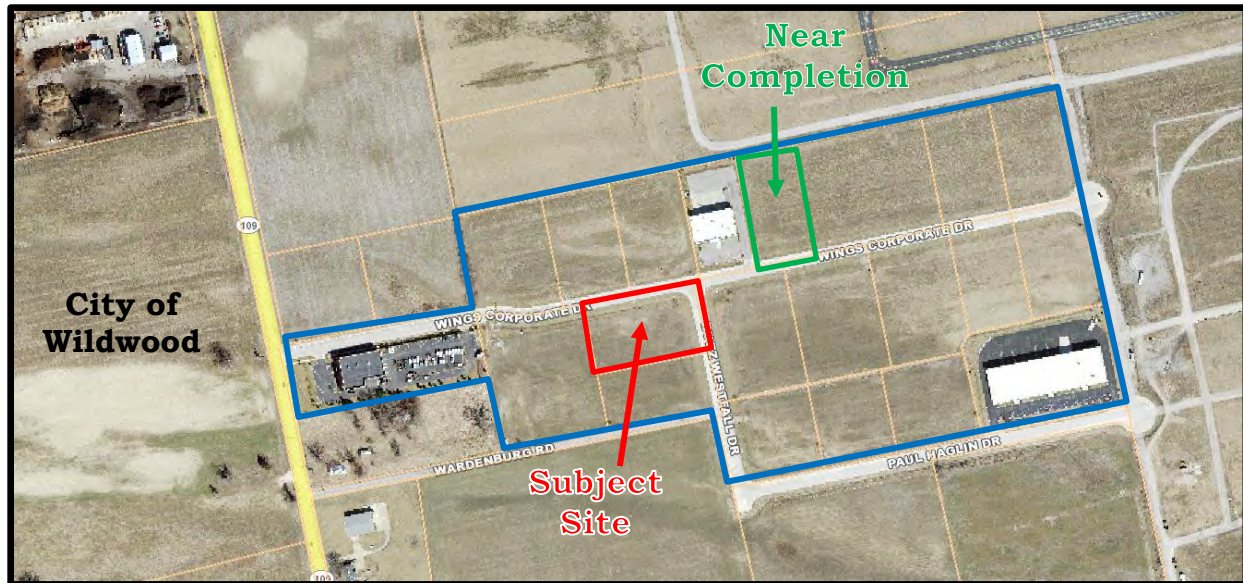

Figure 1
On February 6, 2006, the City of Chesterfield approved Ordinance 2237, which zoned the subject site from a “NU” Non-Urban District to a “PI” Planned Industrial District. Following the change of zoning, the City of Chesterfield approved the Site Development Concept Plan for Wings Corporate Estates on September 11, 2006. The Record Plat for the development was approved on February 4, 2008 to subdivide the development into twenty one (21) lots. Of the twenty-one (21) lots in the Wings Corporate Estates development, three (3) lots have been developed with an additional lot near completion as seen in Figure 1 below.